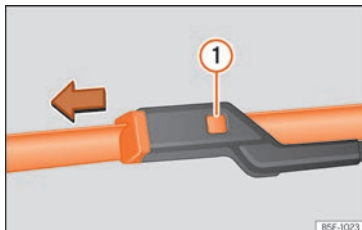

Fig. 40 Changing the windscreen wiper blades
- Press and hold release button >>> Fig. 40 ❶ and pull gently on the wiper blade in the direction of the arrow.